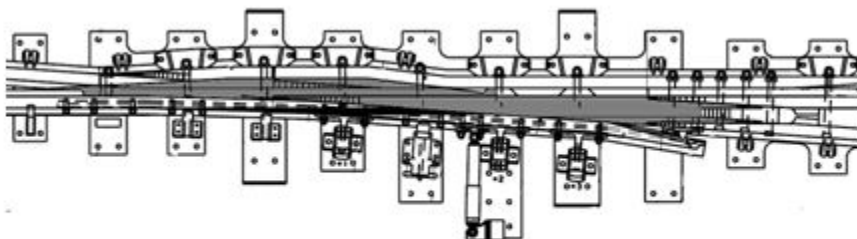

Figure 107G *Manganese Spring Rail Frog*
- Manganese Insert Spring Frog - Similar to the carbon spring rail frog except the point and one running side of the wing are a manganese insert. (Refer to Figure 107G)